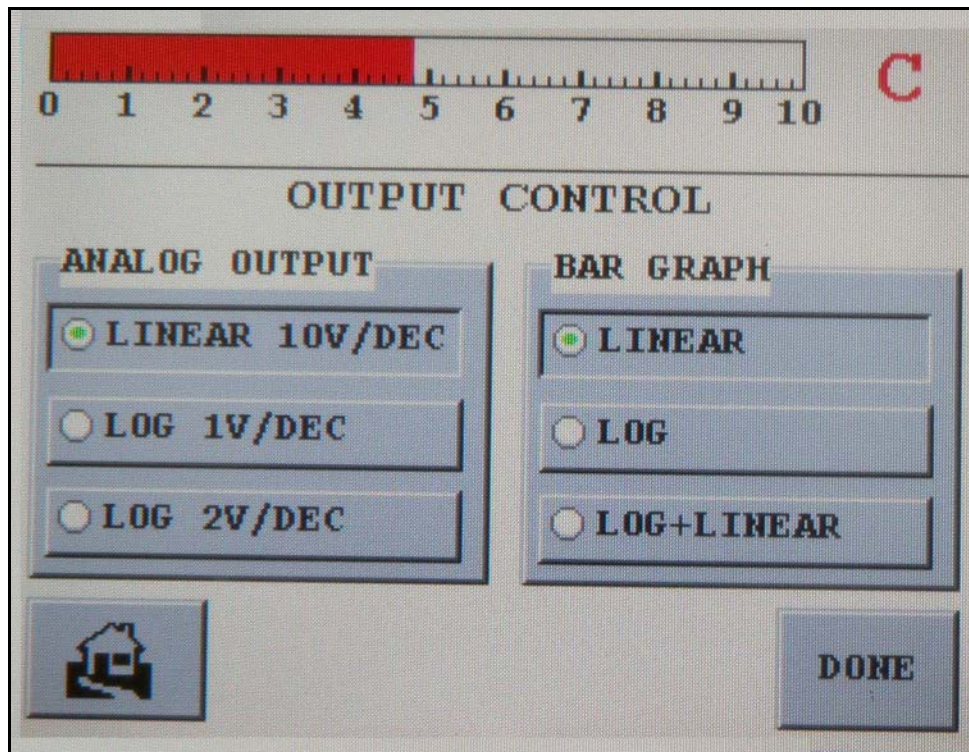

Figure 2-19 Output Control Screen
- Press **Output Control** and the Output Control screen appears (Figure 2-19).